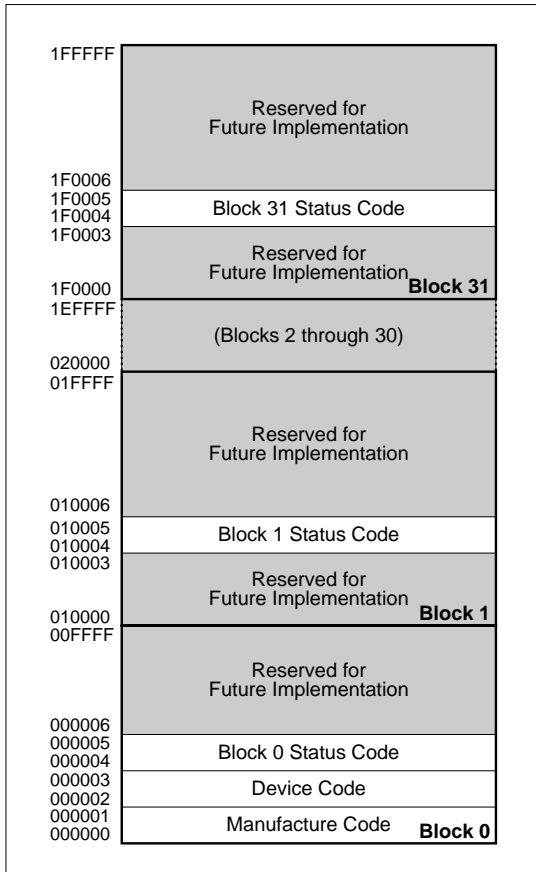

Fig. 2 Device Identifier Code Memory Map
The read identifier codes operation outputs the manufacture code, device code, block status codes for each block (see Fig. 2). Using the manufacture and device codes, the system CPU can automatically match the device with its proper algorithms. The block status codes identify locked or unlocked block setting and erase completed or erase uncompleted condition.
IA = Identifier code address : see **Fig. 2**.
The identifier code operation is initiated by writing the Read Identifier Codes command. Following the command write, read cycles from addresses shown in **Fig. 2** retrieve the manufacture, device, block lock configuration and block erase status (see **Table 4** for identifier code values). To terminate the operation, write another valid command. Like the Read Array command, the Read Identifier Codes command functions independently of the VPP voltage and RP# must be VIH. Following the Read Identifier Codes command, the following information can be read :
1. X selects the specific block status code to be read. See **Fig. 2** for the device identifier code memory map.